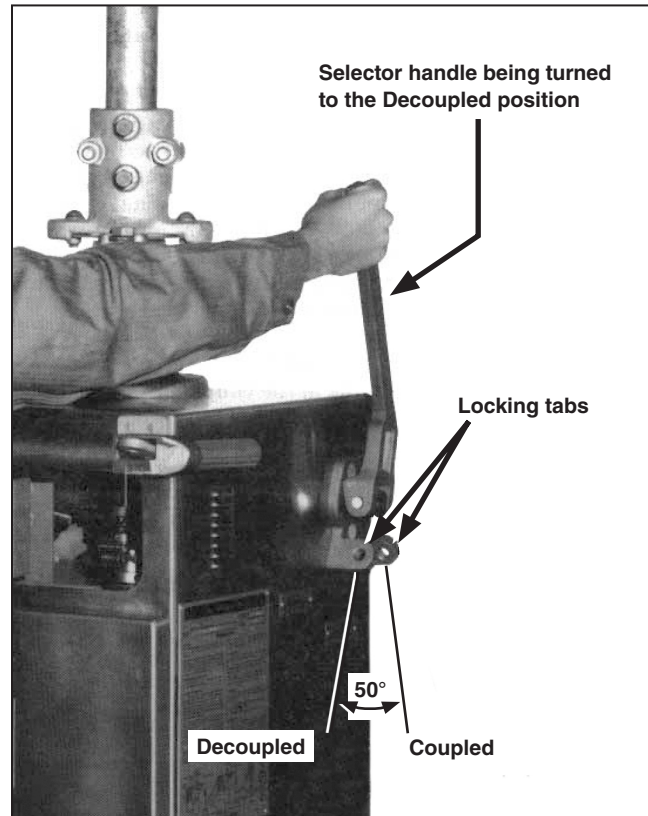

Figure 4. Selector handle operation.
- STEP 1.** Swing the selector handle upright and slowly rotate it clockwise 50 degrees to the **Decoupled** position. See Figure 4. This decouples the switch-operator mechanism from the switch-operator output shaft.
Visual inspection through the observation window will verify whether the internal decoupling mechanism is in the **Coupled** or **Decoupled** position. See Figure 4. The selector handle may be padlocked in either position.